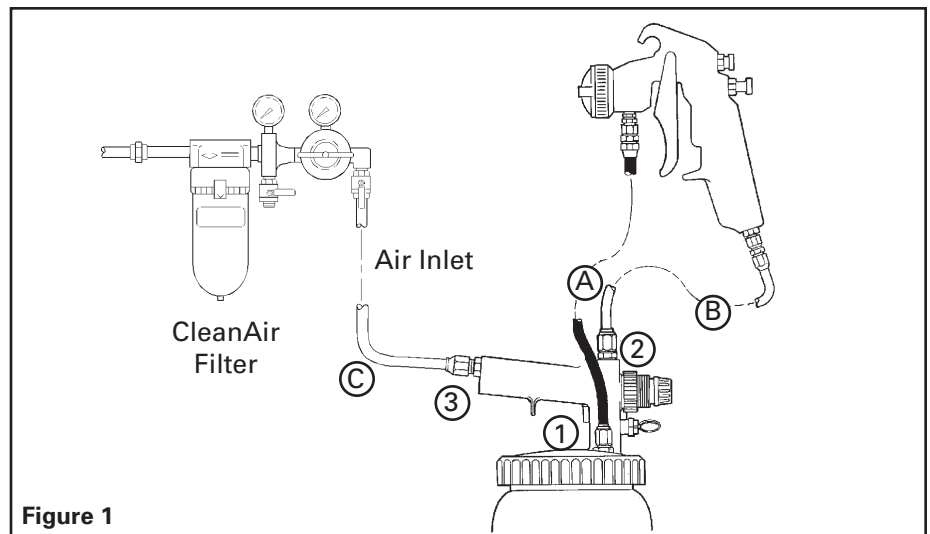

Figure 1
1. Connect fluid hose (A) to fluid inlet of gun and outlet of cup (1) as shown. See Figure 1.
2. Connect atomization air hose (B) to air inlet of gun and outlet of cup (2) as shown. See Figure 1.
3. Connect air supply hose (C) to inlet coupling (3) on cup handle. See Figure 1.